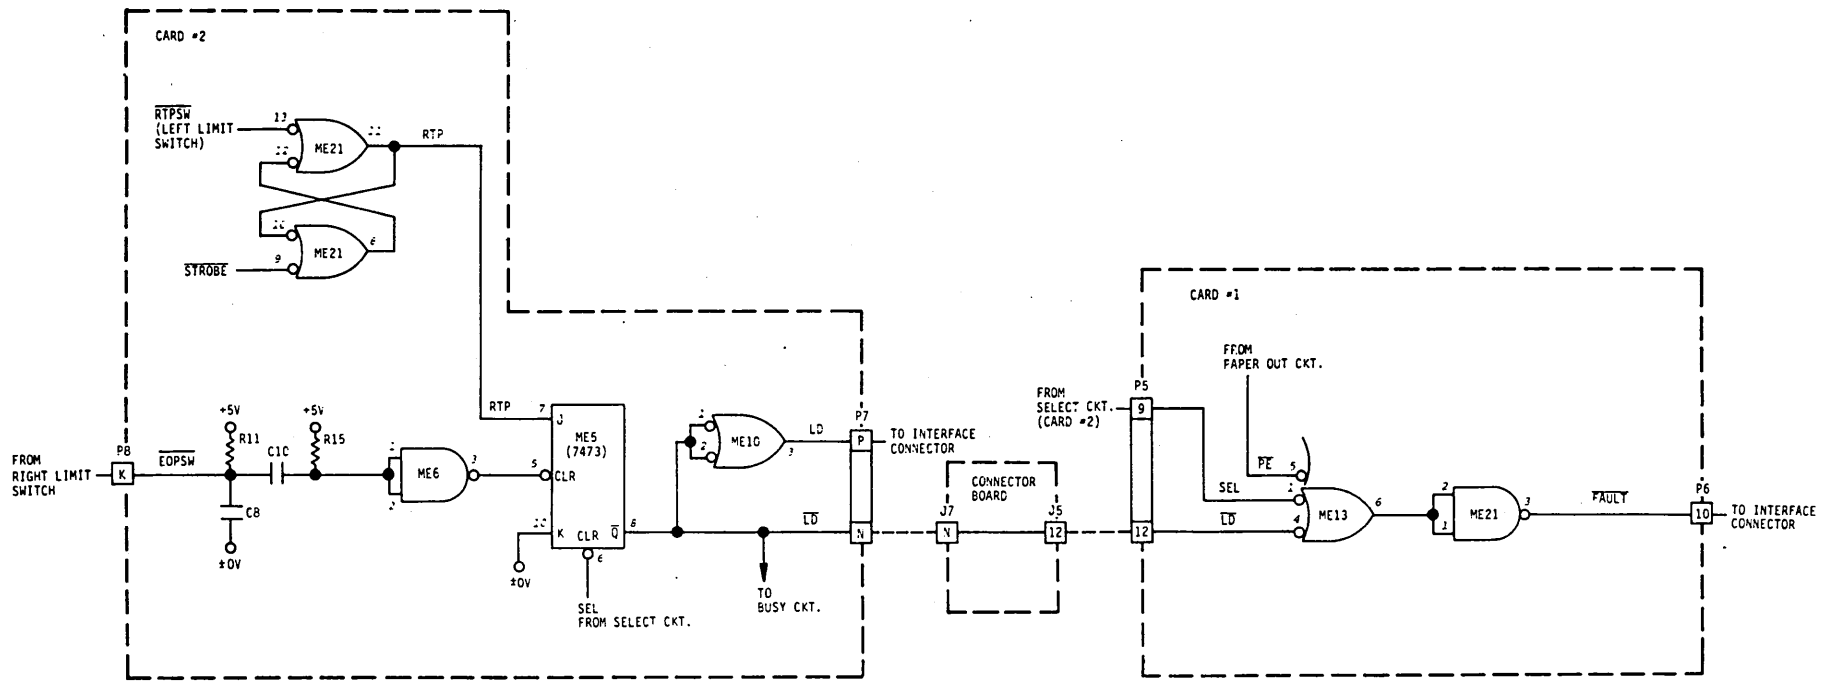

Figure 4-30. FAULT CIRCUIT
4.7.5 FAULT CIRCUIT (FIGURE 4-30)